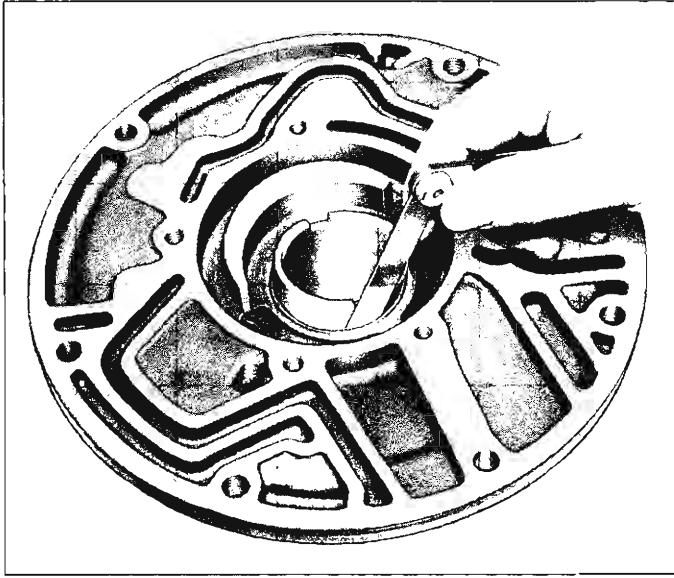

Fig. 21—Checking Pump Body Bushing to Converter Pump Hub Clearance
5. Inspect body bushing for galling or scoring. Check clearance between body bushing and converter pump hub (fig. 21). Maximum clearance is .005". If the bushing is damaged, the front pump body should be replaced.